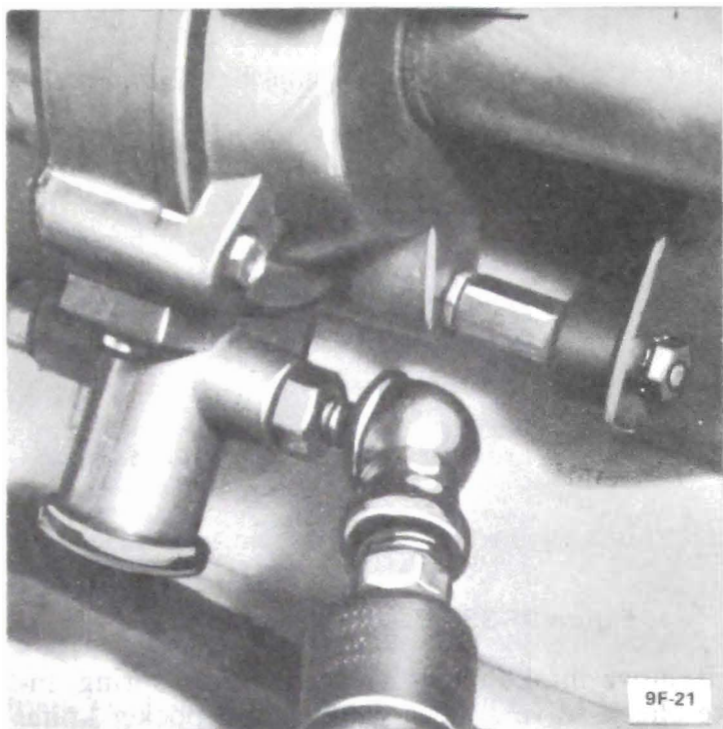

Figure 9F-30 - Filling System Through Service Valve
3. Inflate system through service valve to maximum available pressure. See Figure 9F-30. If available pressure is less than 140 psi, start engine to build up reservoir to this pressure.